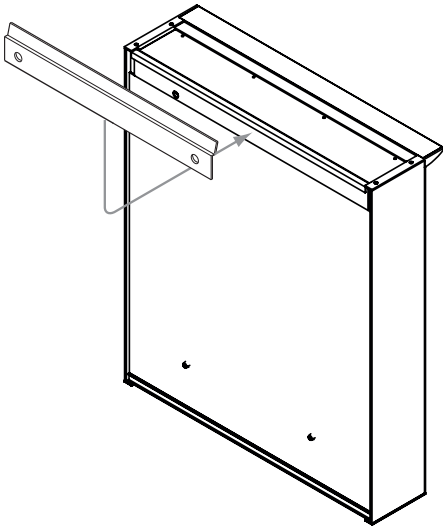
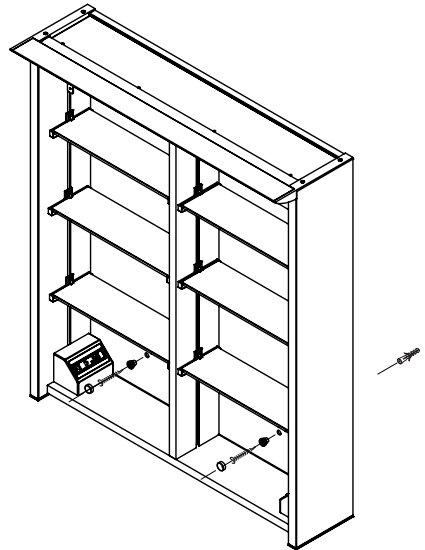

Fig 3. - Mounting Bracket
Fig 4. - Securing Cabinet to the wall
5. Temporarily hang the cabinet on the top bracket, *see Fig. 3*, and mark the position of the bottom mounting hole on the wall using a soft pencil, then remove the cabinet from the wall.
8. When the product is wired correctly, hang the cabinet on the top bracket, *see Fig. 3*, and secure the cabinet with a screw through the bottom mounting hole, *see Fig. 4*. Take care not to overtighten the screw against the backboard, the screw is not load bearing - it is only intended to prevent the cabinet from moving away from the wall.